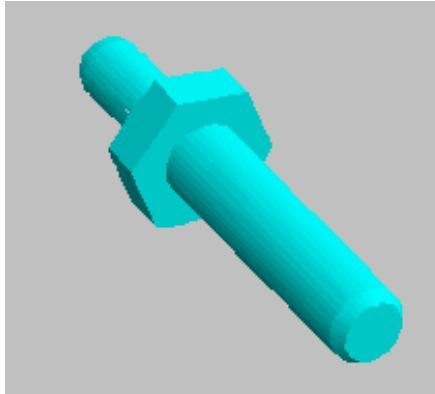

Figure 4
5. The ‘New File’ dialog box will close and the representative part as shown in Figure 4 would appear on the screen.